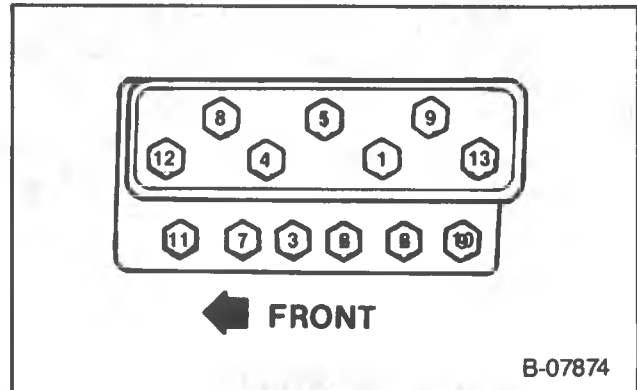

Figure 15 — Cylinder Head Bolt Tightening Sequence
Install or Connect (Figure 15)
- Cylinder head bolts, a little at a time, using the sequence shown in figure 15. Final-torque to 90 N·m (65 ft. lbs.).